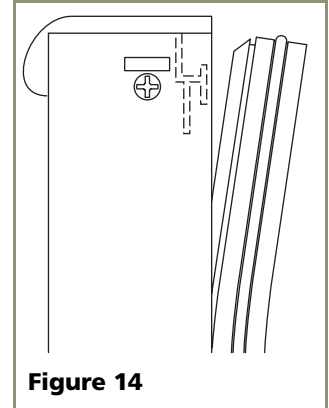

Figure 14
2. Pull door gasket out of groove (top edge of door only). Start in the middle and pull outward, moving toward the edge (see **Figure 14**). This may take some force.